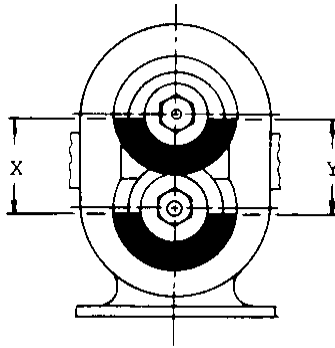

Figure 2 - Impeller Timing
10. Set the timing per Figure 2. Gears that have been in service and marked may be used, as timing will be correct. "X" and "Y" dimensions should be equal when meshing gears to set timing. The normal identification method for timing is two punch marks on the drive shaft gear tooth and one mark on the driven shaft gear mating cavity. Rotate shaft one full revolution to assure correct timing.